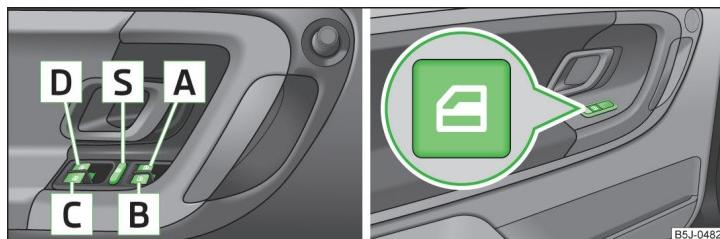

Fig. 37 Buttons on the driver's door/in the rear doors
- Deactivating the electrically operated power windows in the rear doors is recommended (safety push button) **S** when children are being transported in the rear seats » Fig. 37 on page 52.
- After switching the ignition off, it is still possible to open or close the windows for approx. 10 minutes. After the driver's or front passenger's door has been opened, the windows can only be operated by using **A** » Fig. 37 on page 52.
Power window buttons » Fig. 37.
The buttons for power windows in the rear doors can be deactivated by pressing the safety switch  » Fig. 37. The buttons for the electrical power windows in rear doors are activated again by pressing the safety pushbutton  again.
- › Hold button  » Fig. 37 on page 52 in the opening position.
- › Hold Button  » Fig. 37 on page 52 in the closing position.